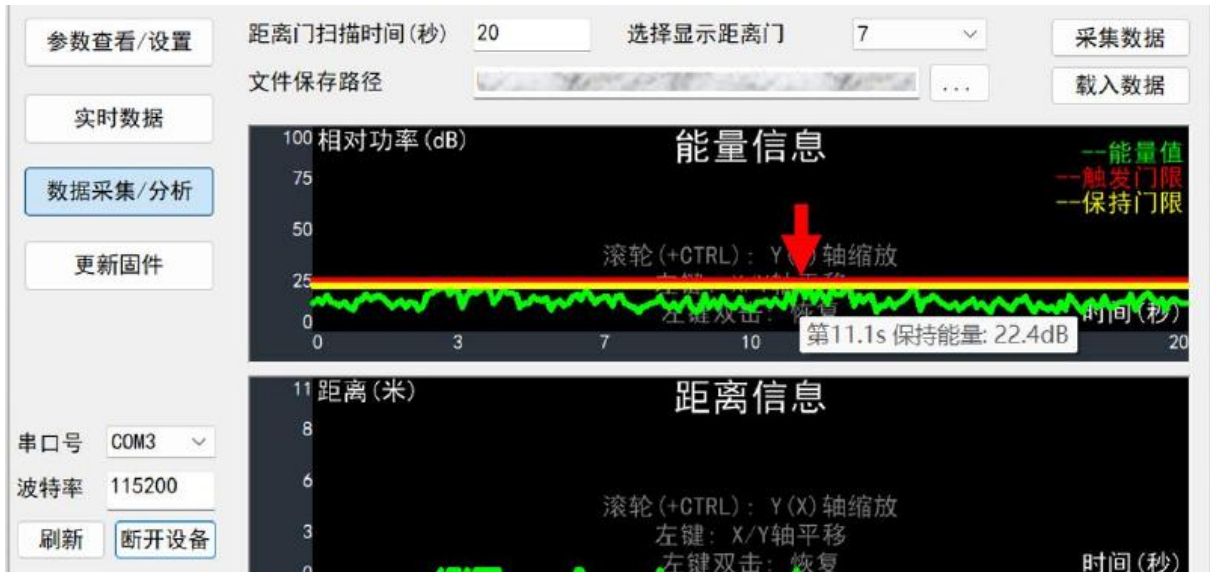

Figure 12 Host computer data viewing page
4. To view specific data at a point on the curve, place the mouse cursor over the location of interest on the curve. A pop-up window will appear at the cursor position displaying the energy value or distance information at that point, as shown in Figure 12.